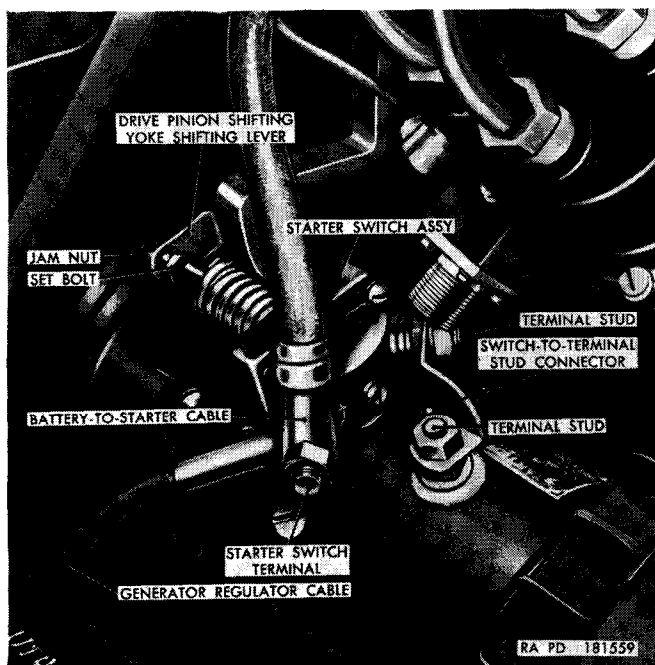
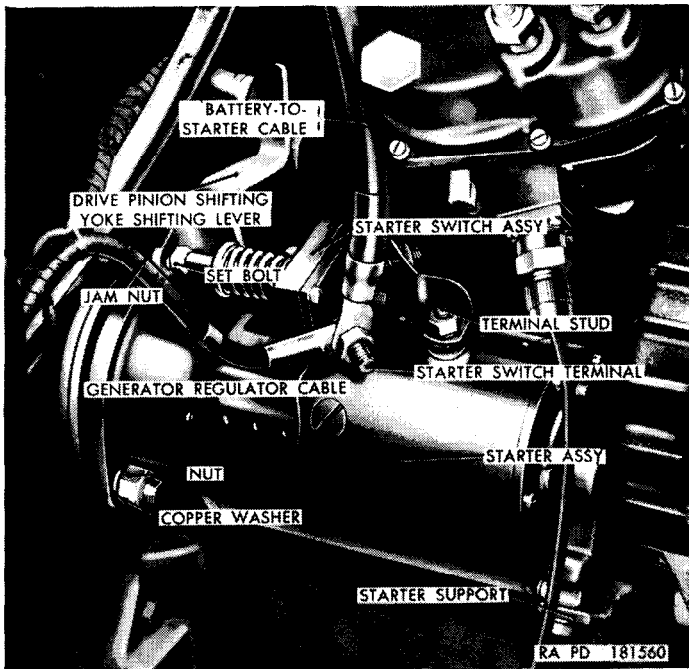

Figure 63. Starter switch terminal—cable No. 12 removed.
Figure 64. Starter installed on engine.
The auxiliary power cable receptacle with connecting cables is considered a part of the starting system as it is the connection for the application of any outside power source such as a booster battery or a charging and starting power unit. The starter pedal assembly engages the starter drive pinion with the flywheel ring gears, and also operates the starter switch assembly. The starter assembly (fig. 64) is a fully sealed, waterproof unit, mounted on the front of the flywheel housing, at the right side. The starter switch assembly (fig. 64) is a separate unit, mounted on top of the starter assembly. The drive incorporates an over-running clutch, which automatically disengages when the engine starts. The starter bearings are lubricated at assembly and require no further lubrication.
a. Removal. Loosen the lead-coated nut securing the battery-to-starter cable No. 82 terminal to the positive terminal of battery "B" (fig. 62), and remove the cable from the terminal stud. Pull the cable out of the battery box to avoid accidental contact with the battery terminal. Remove the terminal nut, lockwasher, battery-to-starter cable, generator regulator cable, and auxiliary power receptacle cable (if vehicle is equipped with an auxiliary power receptacle) from the starter switch terminal (fig. 63). Remove the bolt and lockwasher securing the starter assembly to the starter support (fig. 64). Remove the nut and copper washer (fig. 64) from bolt, and remove the bolt and copper washer from the starter clutch and pinion housing assembly and the flywheel housing. Remove the screw and lockwasher in the upper hole of the clutch and pinion housing assembly securing the starter as-
b. Installation. Insert the drive pinion end of the starter assembly into the flywheel housing, and position the starter. Place a $\frac{1}{2}$ -inch copper washer on the $\frac{1}{2} \times 3\frac{1}{2}$ bolt and insert the bolt through the flywheel housing, through the starter clutch and pinion housing assembly, and install a $\frac{1}{2}$ -inch copper washer and $\frac{1}{2}$ -inch nut on the bolt. Install the $\frac{1}{2} \times 1\frac{1}{4}$ screw and lock washer through the upper hole in the clutch and pinion housing assembly and screw into the flywheel housing. Secure the front of the starter to the starter support (fig. 64) with $\frac{3}{8} \times \frac{7}{8}$ bolt and lockwasher. Place the battery-to-starter cable, generator regulator cable, and the auxiliary power receptacle cable, if used, on the starter switch terminal (fig. 63) and install the $\frac{7}{16}$ -inch lock washer and terminal nut. Coat the starter switch terminal and cable terminals with ignition insulation compound. Insert the battery-to-starter cable through the rubber grommet in the battery box, place the cable terminal onto the stud on the battery "B" positive terminal (fig. 62), and install the $\frac{5}{16}$ -inch lead-coated nut. Coat the battery terminal with artillery and automotive grease (GAA).
a. Removal. Loosen the nut securing the battery-to-starter cable No. 82 terminal to the positive terminal of battery "B" (fig. 62) and remove the cable, from the terminal stud. Remove the terminal nut and lockwasher securing the battery-to-starter cable (fig. 63), generator regulator cable, and auxiliary power receptacle cable, if used, to the starter switch terminal, and remove the cables. Remove the nut and lockwasher from the terminal stud (fig. 63) on the starter assembly. Remove the nut and lockwasher from the terminal stud (fig. 63) on the starter switch assembly, and remove the switch-to-terminal stud connector (fig. 63). Remove four bolts and lockwashers securing the starter switch assembly to the starter assembly and remove the starter switch assembly.
b. Installation. Place the starter switch assembly on the starter assembly and install four No. 10 x $\frac{5}{8}$ bolts and lockwashers holding switch to starter. Place the switch-to-terminal stud connector (fig. 63) over the terminal studs on the starter and starter switch. Install the $\frac{7}{16}$ -inch nuts and lockwashers securing the connector to the terminal studs. Place the battery-to-starter cable, generator regulator cable, and the auxiliary power receptacle cable, if used, on the starter switch terminal. Install $\frac{7}{16}$ -inch lockwasher and terminal nut. Insert the battery-to-starter cable through the grommet in the battery box and place the terminal over the positive terminal stud on battery "B" (fig. 62). Install the $\frac{5}{16}$ -inch lead-coated nut securing the battery-to-starter cable to the terminal. Coat terminal with artillery and automotive grease (GAA) and check the operation of the starter switch assembly. If the switch does not make contact so that starter operates, adjust (*c* below).
c. Adjustment. Loosen the jamnut (fig. 63) on the setbolt in the drive pinion shifting yoke shifting lever. Depress the starter pedal as far as possible. Adjust the setbolt in or out until the starter switch makes a good contact, and tighten the jamnut. Release the starter pedal, wait a few seconds, and try the pedal again. If adjustment is correct, the starter will operate properly.